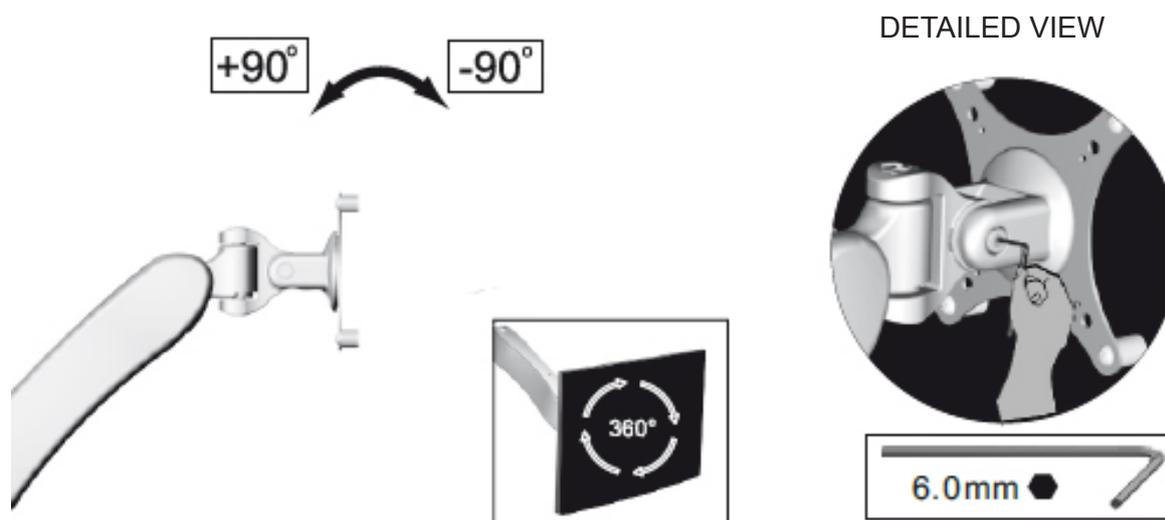

Figure 5
2. If the Tilter Mount Bracket tends to automatically fall, it may be required to adjust the Tilter Mount Bracket joint to suit your microscope tilt position of forward and backward of 90 degree. This can be done by using Hex Allen Wrench 6mm to increase the resistant of the Tilter Mount Bracket in order to secure tilt position, adjust the M5x15mm Tension Hex Socket Cap Screw located around the Tilter Mount Bracket Joint using 6mm Hex Allen Wrench. (See Figure 5).